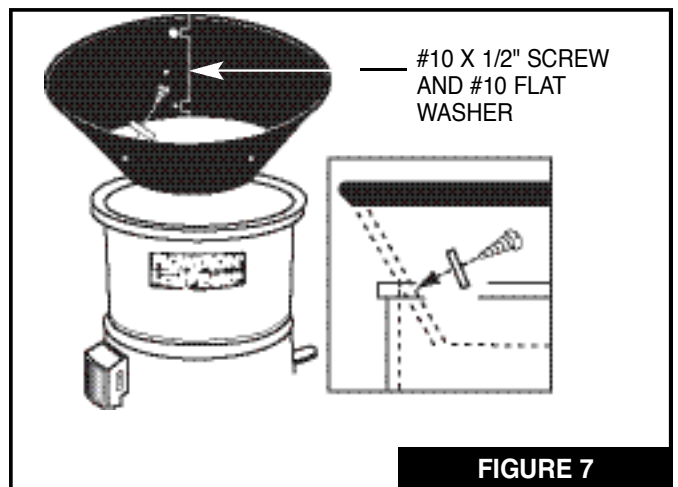

FIGURE 7
Align four (4) holes in Funnel with four holes in Housing and fasten securely using four #10 x 1/2" screws and #10 flat washer as shown in cutaway view in figure 7.